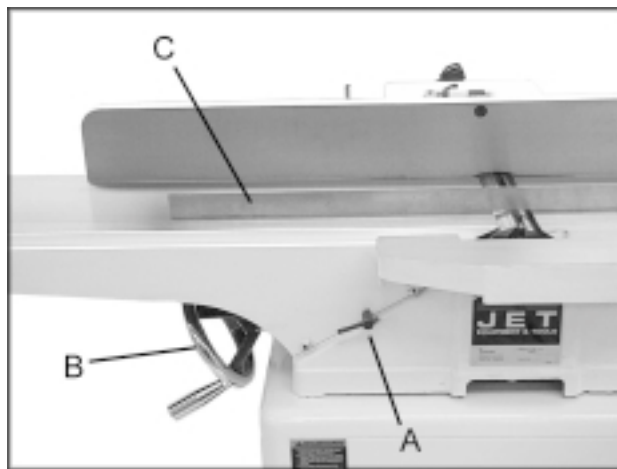

Fig. 8
3. Loosen table lock screw (A, Fig. 8) and raise the outfeed table to the height of blade number one by turning handwheel (B, Fig. 8). Counter-clockwise will cause the outfeed table to raise. Clockwise will cause the outfeed table to lower. Set a straight edge (C, Fig. 8) on the outfeed table and across the cutterhead.